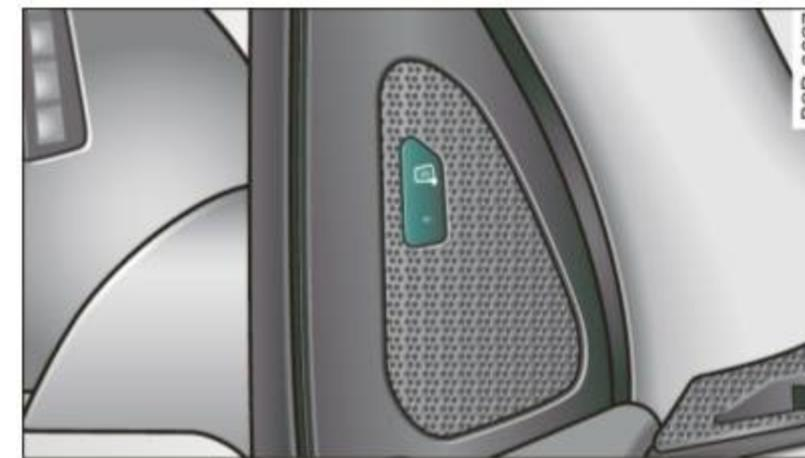

Fig. 122 Driver's door: Side assist button
- Press the ⇒ fig. 122 button. The indicator on the button lights up.